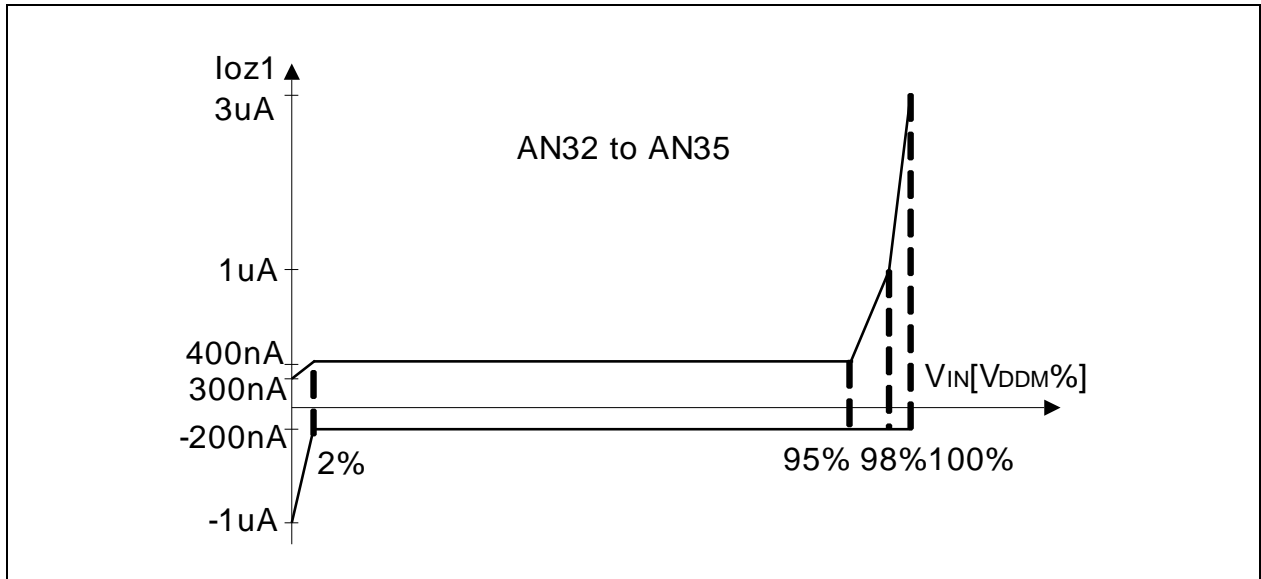

Figure 4-5 Analog Inputs AN32-AN35 Leakage
| Input leakage currentat analog inputsAN32 to AN35.5) see Figure 4-5 | $I_{OZ1}$ 6) | CC | –1000                 | 300                  | nA   | (0% $V_{DDM}$ ) < $V_{IN}$ <(2% $V_{DDM}$ )    |
- 5) The leakage current definition is a continuous function, as shown in Figure 4-5. The numerical values defined determine the characteristic points of the given continuous linear approximation - they do not define step function.